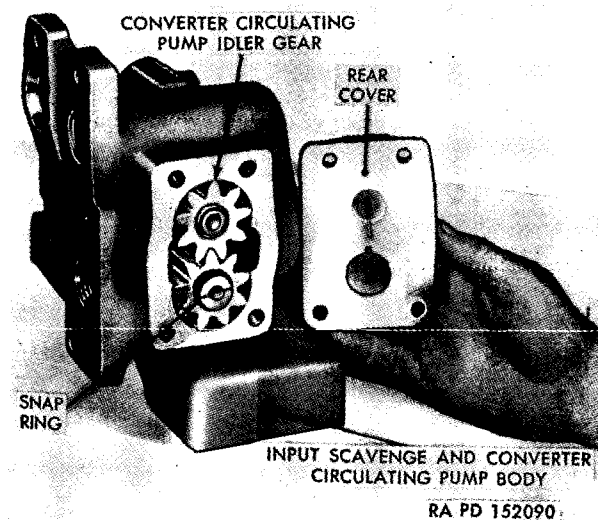
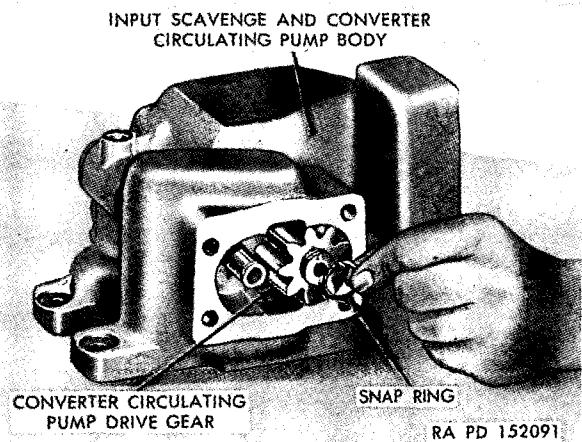
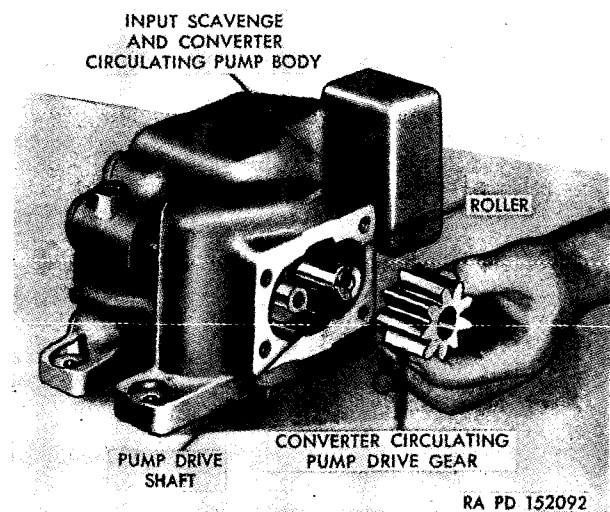

Figure 351. Removing or installing rear cover of input scavenge and converter circulating pump.
Figure 352. Removing or installing converter-circulating-pump-drive-gear snap ring.
Figure 353. Removing or installing converter-circulating-pump drive gear.
b. Remove the idler gear, the bearing, the shaft and spacer as an assembly. Using a $\frac{1}{2}$ -inch wrench, remove the four bolts from the pump rear cover and remove the cover (fig. 351). Remove the converter-pump-idler gear. Remove the snap ring (fig. 352) from the drive gear shaft. Remove the converter-circulating-pump-drive gear and retaining roller from the pump drive shaft (fig. 353).
b. Install the roller and the converter-circulating-pump-drive gear on the drive shaft (fig. 353). Install the snap ring on the end of the drive shaft (fig. 352). Install the converter-circulating-pump-idler gear on the idler gear shaft. Install the pump rear cover on the pump body (fig. 351) making sure that the largest diameter recess in the cover goes over the end of the drive shaft. Install four $\frac{5}{16}$ -inch bolts in the cover and torque 17 to 20 pound-feet.